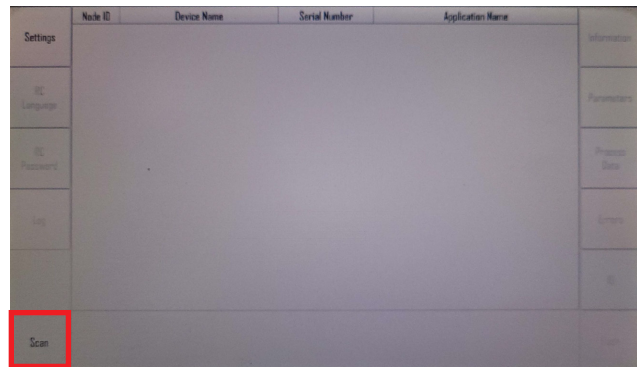

Figure 9: Main BODAS screen
6. In the Main BODAS screen, press the 'Scan' button; see Figure 9.